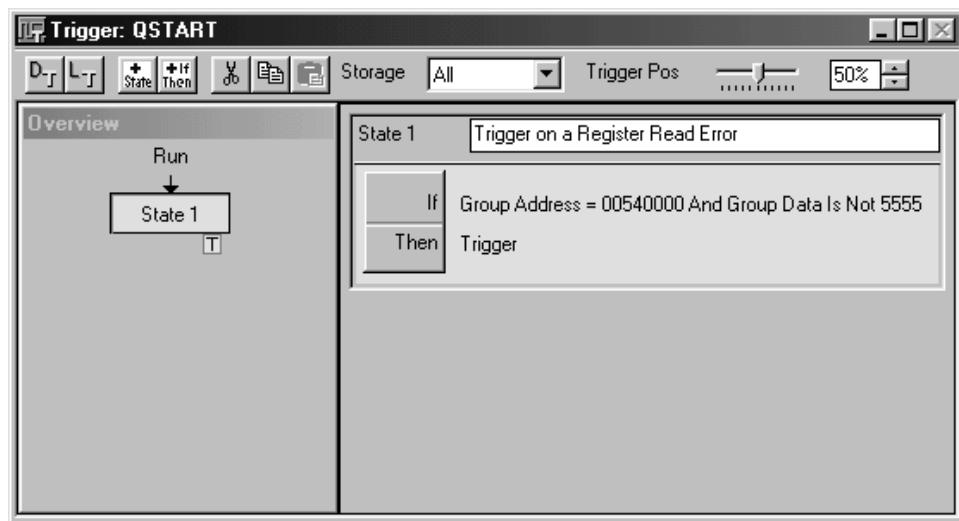

Figure 3–17: Trigger window for Exercise 4
1. To understand how the logic analyzer triggered on the faulty data, view the setup in the Trigger window (see Figure 3–17).